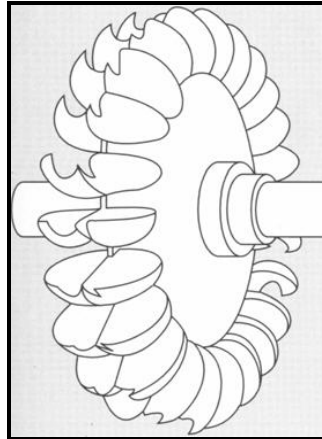

FIGURE 1.1
1.20 Identify the hydro-turbine in FIGURE 1.1.